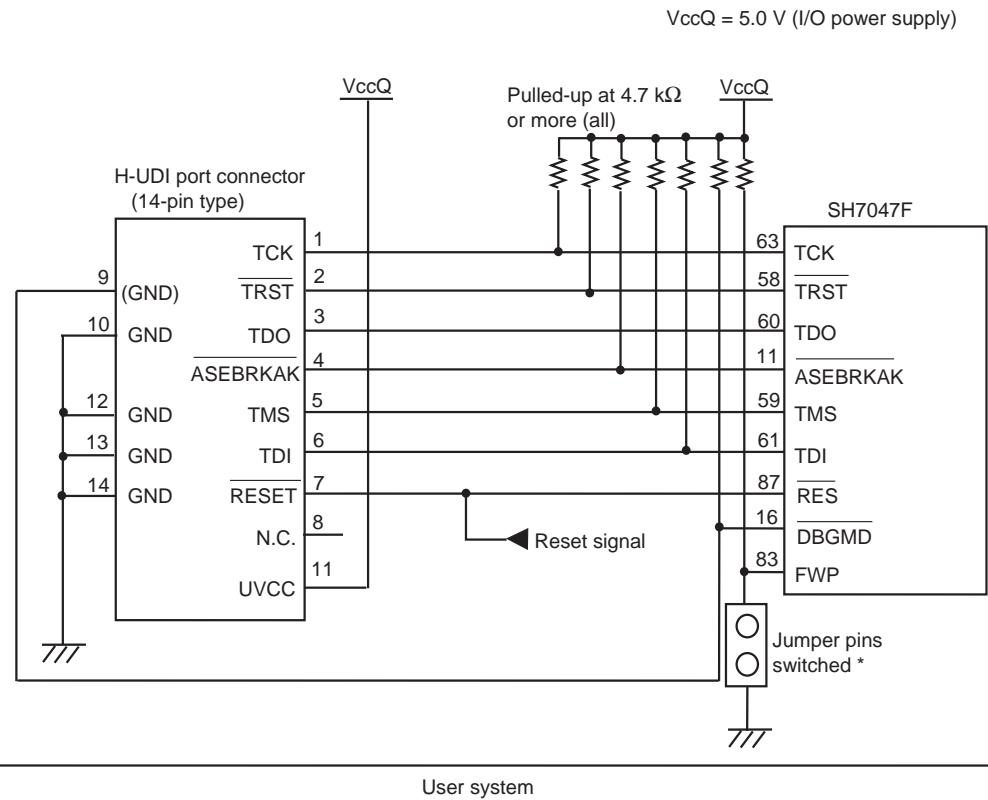
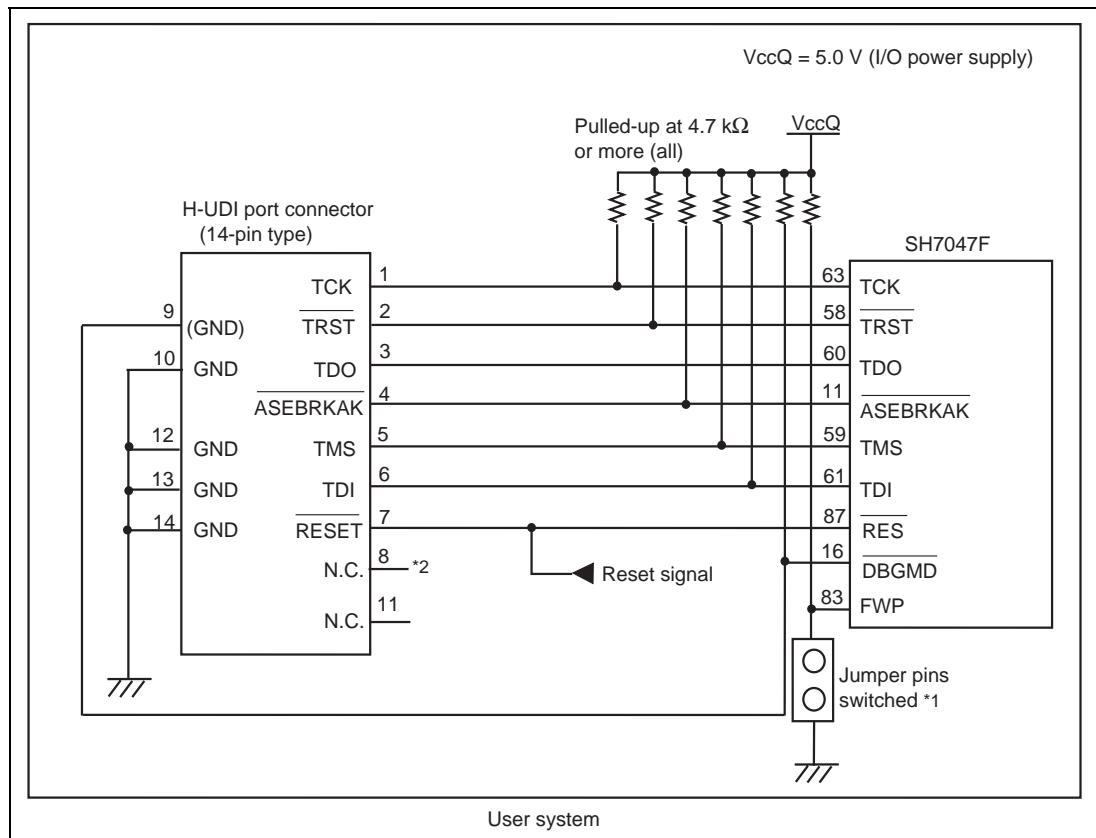

Figure 1.5 Recommended Circuit for Connection between the H-UDI Port Connector and MCU when the Emulator is in Use (14-Pin Type UVCC Connected)
Figure 1.6 Circuit for Connection between the H-UDI Port Connector and MCU when the Emulator is in Use (14-Pin Type UVCC Not Connected^{*2})
Figure 1.5 shows a recommended circuit for connection between the H-UDI and AUD port connectors (14 pins) and the MCU when the emulator is in use. Figure 1.6 shows a circuit for connection when UVCC is not connected.
- (1) When the emulator is used: /DBGMD = 0 (ASE mode)
- (2) When the emulator is not used: /DBGMD = 1 (normal mode)Figures 1.5 and 1.6 show examples of circuits that allow the /DBGMD pin to be GND (0) whenever the emulator is connected by using the user system interface cable. When the /DBGMD pin is changed by switches, etc., ground pin 9. Do not connect this pin to the /DBGMD pin.
6. When the power supply of the user system is turned off, supplying VccQ of the user system to the UVCC pin reduces the leakage current from the emulator to the user system. A level shifter that is activated by the internal power supply or user power supply (changed by the switch) is installed in the interface circuit of the emulator. If the user power is supplied to the UVCC pin, the level shifter is not activated as long as no user power is supplied. When the power supply of the user system is turned off, no current flows from the user interface. The I/O voltage level of the user system interface can be the same as that of the VccQ. To operate the emulator with low voltage (lower than 5.0 V), the VccQ must be supplied to the UVCC pin. Make the emulator's switch settings so that the VccQ will be supplied (SW2 = 1 and SW3 = 1) (as shown in figure 1.5).
7. The resistance values shown in figures 1.5 and 1.6 are recommended.
When the circuit is connected as shown in figure 1.5, the switches of the emulator are set as SW2 = 1 and SW3 = 1. For details, refer to section 3.8, Setting the DIP Switches, in the Debugger Part of the SuperH™ Family E10A-USB Emulator User's Manual.
When the circuit is connected as shown in figure 1.6, the switches of the emulator are set as SW2 = 0 and SW3 = 1. For details, refer to section 3.8, Setting the DIP Switches, in the Debugger Part of the SuperH™ Family E10A-USB Emulator User’s Manual.